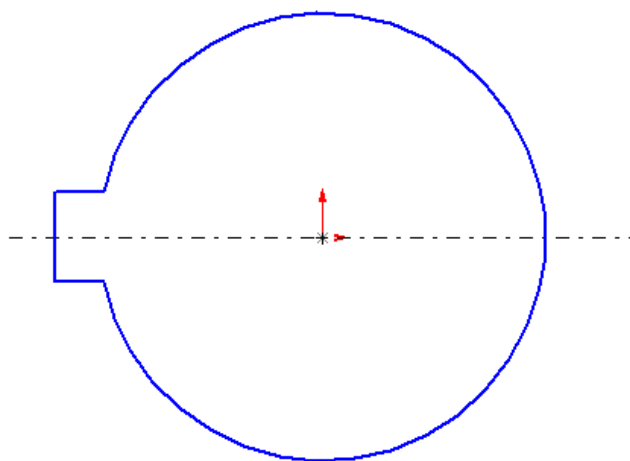

Figure 2-51 Sketch of the outer loop
- d. Draw the sketch and edit the sketch using the sketch mirror tool, and the sketch trim tool, refer to Figure 2-51.
The sketch of the outer loop after trimming the unwanted portion of the sketch is shown in the Figure 2-51.